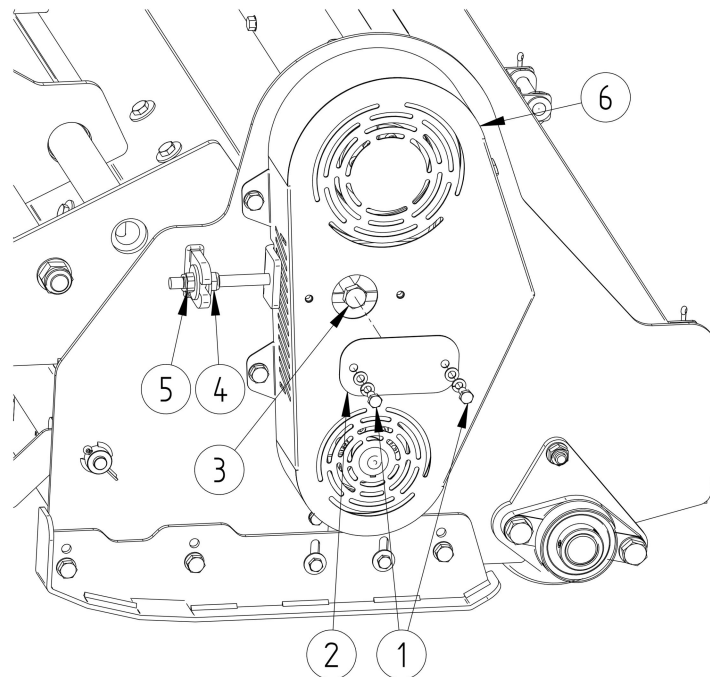

Fig 6. Belt tensioning scheme
All the spots marked on the fig. 6, are equipped with ball grease nipples, fill with grease ŁT43 using a grease gun. Grease the PTO shaft after removing it from the machine. The telescopic part of the shaft should be lubricated at least after 8 hours of operation - with the shaft fully extended and after prior removal of impurities.
- grease the machine according to the greasing diagram (fig. 6).